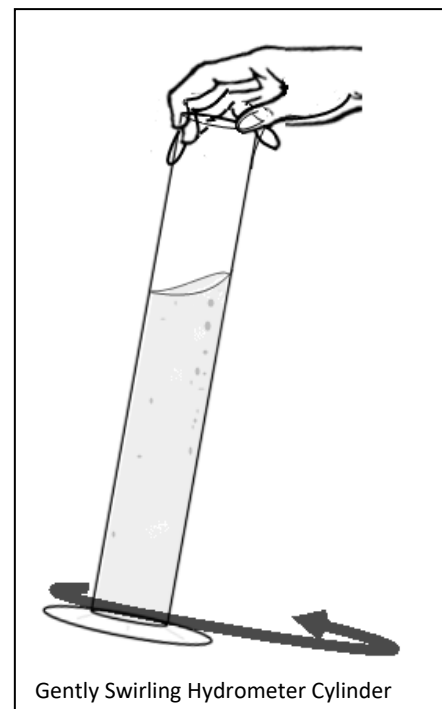

Figure 10
7. Make sure the solution you gathered does not have excessive amount of bubbles. To release excess amount of bubbles from the solution gently tap the Hydrometer Cylinder and/or gently swirl the entire Hydrometer Cylinder until a majority amount bubbles have been released from the solution (Figure 10).